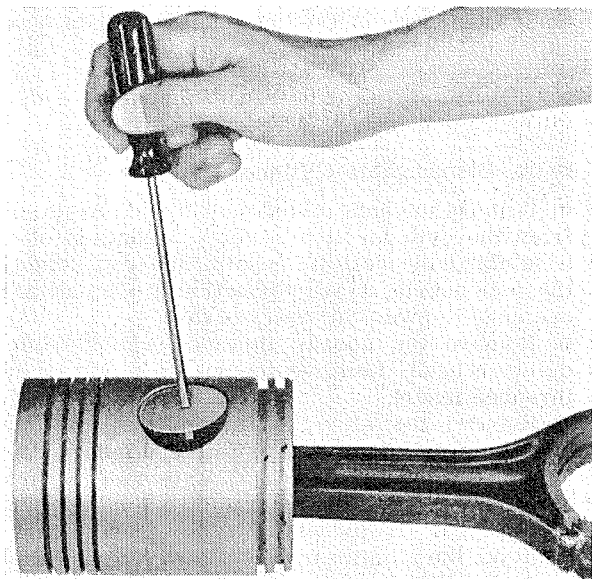

FIG. 33—REMOVING WRIST PIN END PLUG
d. Remove wrist pin end plugs. Puncture the plug with a sharp instrument, such as a screwdriver. Pry the plug out as shown in Fig. 33.